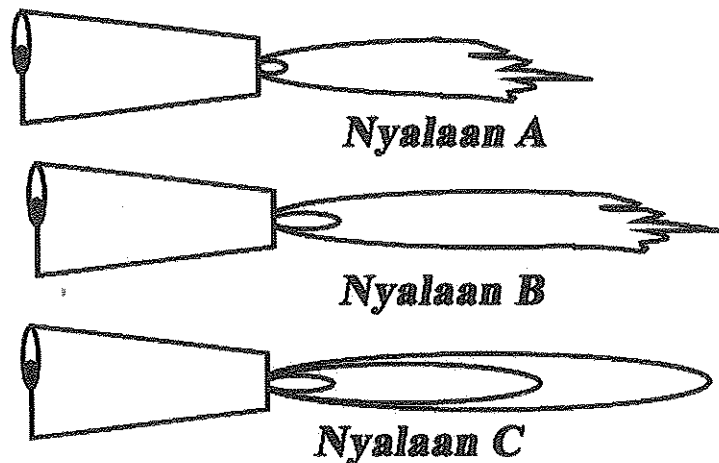

Figure 4b (iii) / Rajah 4b (iii)
- iii. Identify the types of flame in Figure 4b (iii).